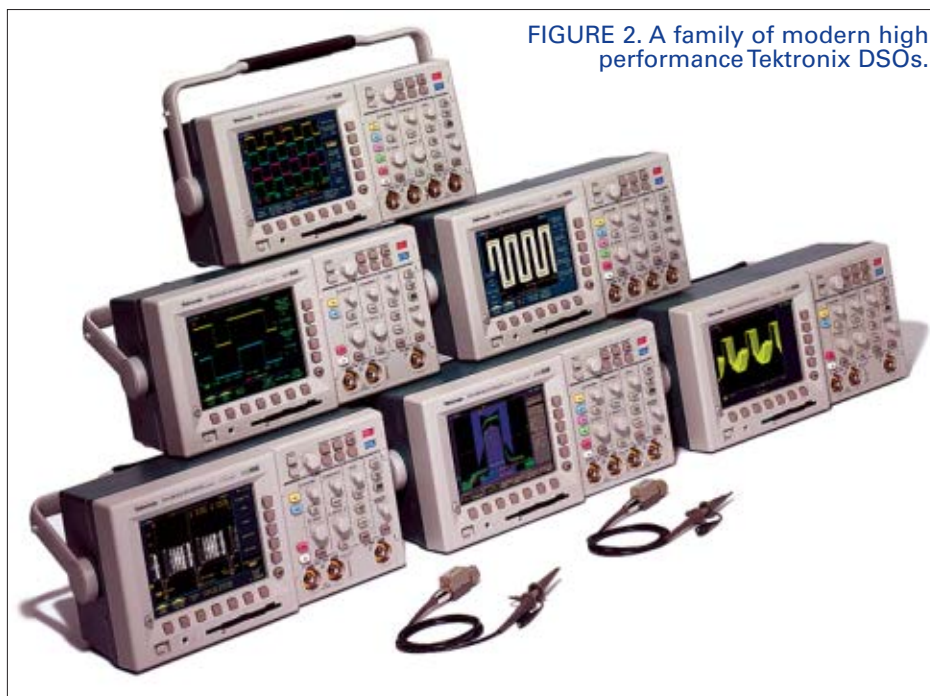

FIGURE 2. A family of modern high performance Tektronix DSOs.
With a modern oscilloscope's built-in tools such as cursors and automated measurements, it's easy to verify signal integrity problems impacting your design. Purely analog signals — such as the output of a microphone or digital-to-analog converter — can only be monitored with an instrument that records analog details (see Figure 2).
As shown in Figure 2, the robot is only about two inches long, and consists of front and rear segments, each connected to a vacuum line. The robot is designed to walk along the surface of a beating heart. It accomplishes this feat with suction variably applied to the area below each segment. Guide wires between the segments enable the human operator to steer the robot to the appropriate area of the heart.
■ FIGURE 2. The HeartLander surgical robot from Carnegie Mellon University uses manually manipulated guide wires and pneumatic suction for inchworm locomotion on the surface of the heart[1].